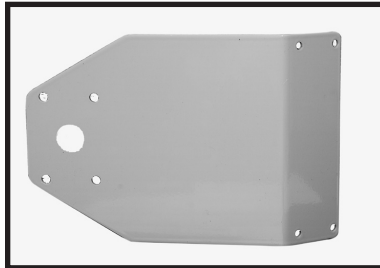
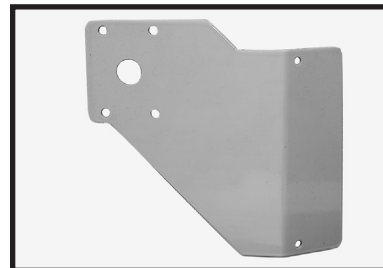

Fig. 18
Fig. 19
6. Attach the lower guide rail (E) Fig. 19 to the two holes in the stand, using the two flat washers and nuts that were removed from the lower rail assembly in **STEP 2**.
NOTE: Place the long end of rail (E) Fig. 19 (stud farthest from the end) toward the front.
7. Tighten the four nuts that attach the guide rail (F) Fig. 19 to the stand. Leave a space of 2-1/8" between the guide rail and the stand. Final adjustments will be made later.
1. If your switch bracket looks the same as the bracket in Fig 18, order a new switch bracket (#432-02-014-0017) that looks the same as the bracket in Fig. 19 .